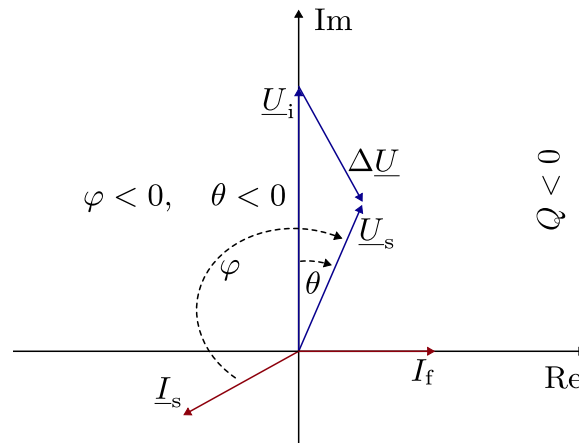

Figure 6.2: Phasor diagram of an over excited synchronous machine in generator mode.
3.5 In the next task, the machine operates as generator and the power is 500 kW. The phasor diagram for this operation is shown in Fig. 6.2. Which load angle θ is set at the new operating point?